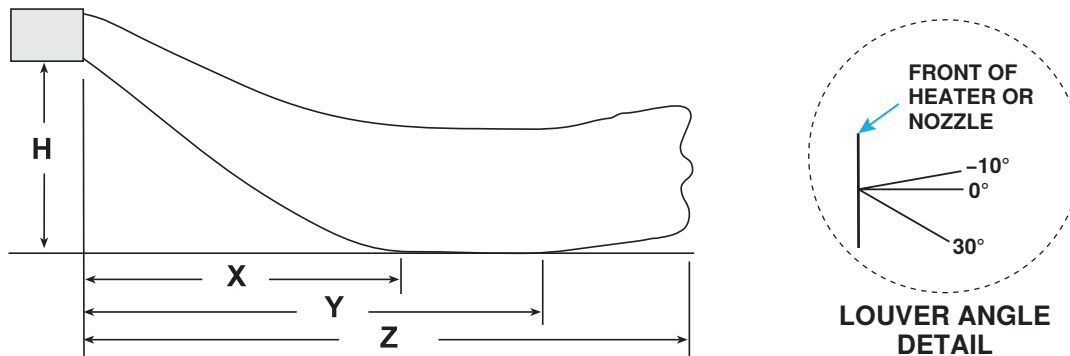

Figure 1. Heater Throw (Refer to **Table 5**, **Table 6**, and **Table 7**)
Figure 1 shows throw patterns and **Table 5**, **Table 6**, and **Table 7** list throw distances for heaters suspended at varying mounting heights. The throw pattern changes with the addition of optional vertical louvers.
*See Figure 1 .
*See **Figure 1**.
*See Figure 1.